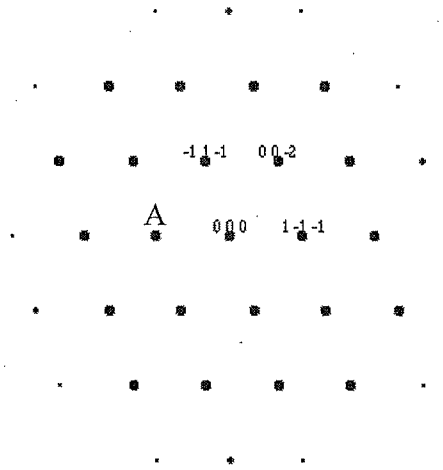

Fig. 1. Diffraction pattern from a gold crystal with the electron beam incident along the $[110]$ direction.
The diffraction pattern in Fig. 1 is obtained for a gold crystal with the electron beam incident along the $[110]$ direction in a TEM operated at 200 kV.
- (a) Draw the Kikuchi lines corresponding to the 6 diffraction spots closest to 000 in Fig 1. (1p)